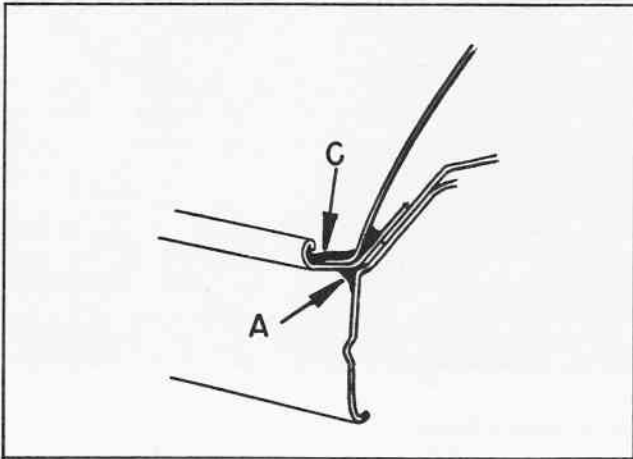

Fig. 10 Cross-Section at "B"-"B" Figure 9
5. Check joint at point "C" (Fig. 10) and reseal if necessary.